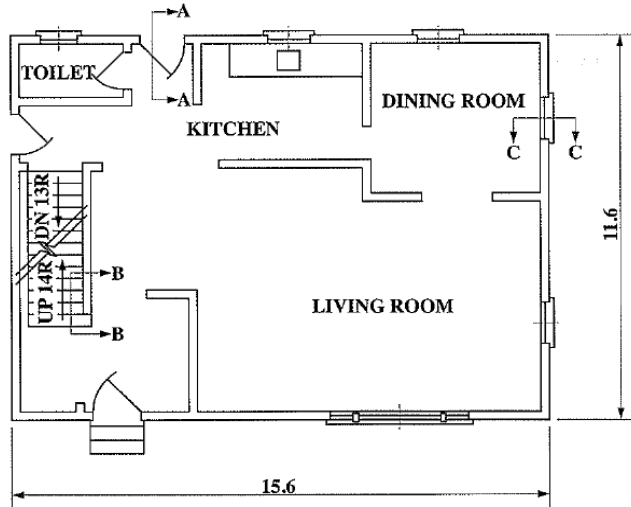

Figure 1. Floor plan
Candidates were presented with a floor plan and the front elevation of a panelled door and frame (see Figures 1 and 2).
- (i) produce a labelled vertical section of the stair at B-B on the plan view in Figure 1 to show how one riser and one tread are connected together, and